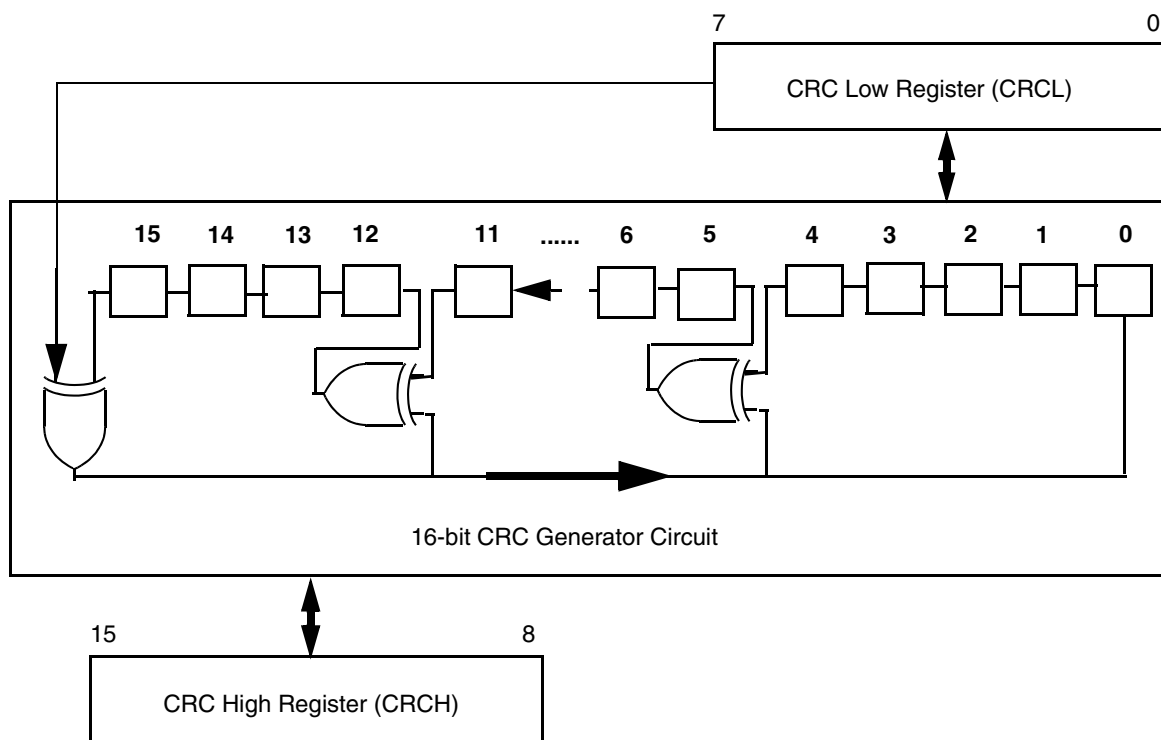

Figure 8-2. Cyclic Redundancy Check (CRC) Module Block Diagram
Figure 8-2 provides a block diagram of the CRC module
- ITU-T V.41 implements the same circuit shown in Figure 8-2, but it recommends a SEED =  $0x0000$ .
- ITU-T T.30 and ITU-T X.25 implement the same circuit shown in Figure 8-2, but they recommend the final CRC result to be negated (one-complement operation). Also, they recommend a SEED =  $0xFFFF$ .